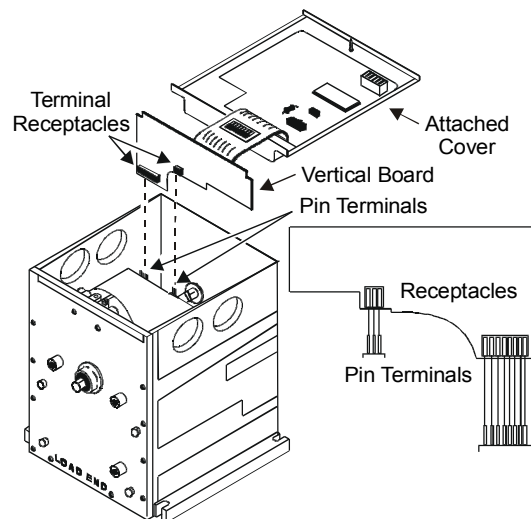

Figure 3: Installing the Vertical Board
3. Install the ribbon attached cover-mounted vertical board, carefully placing the terminal receptacles onto the two sets of pin terminals so all pins are aligned. (See Figure 3.)